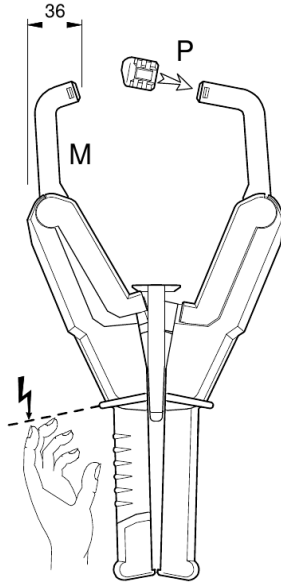

Figure 2.57: Protection against electric shock and short-circuit
- Use safety cover 'P' Figure 2.57 [→55] for protection against short-circuits during clamping!